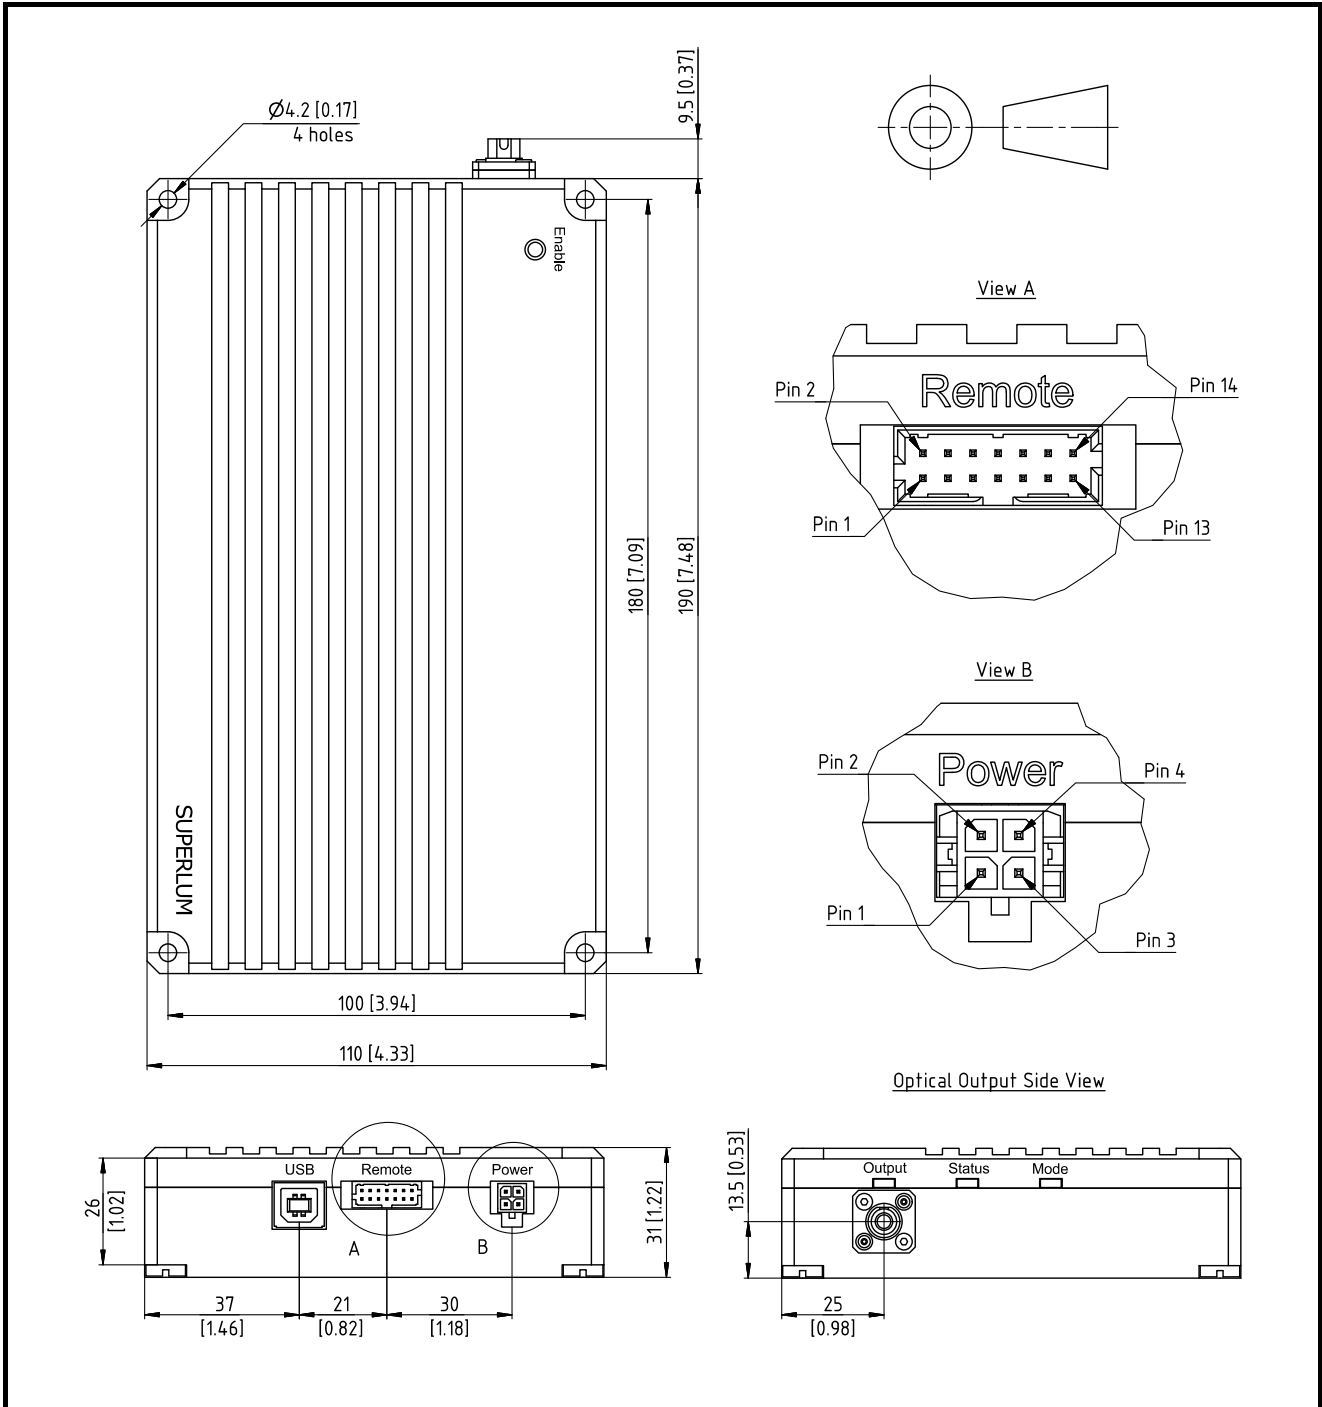

Figure 1. Drawings of Light Source. Dimensions are in millimeters [inches]
Temperature control is an important factor when considering where and how you will integrate this light source to your application. Ideally in order to ensure effective heat dissipation the Light Source should be mounted to an appropriate heatsink in any spatial orientation with 25mm of free space around the sides and cover to allow air circulation. The Lightsource should be anchored to a flat plate heatsink large enough to accommodate the entire footprint of the lightsource base, (see section 1.4 above; Figure 1. Drawing of Light Source) using the Four (4) anchoring holes. Mounting and using without a heatsink is possible, but this approach will reduce the operating temperature range. Forced air circulation system around the enclosure is in this case strongly recommended.
**4.1.5** If no abnormality was found on the preceding stages the lightsource is now ready for use also when the Light Source has been run successfully for the first time it can now be controlled via the USB port, or analog signals via the remote port (see Fig. 1, 2, and Sec. 4.4). To prolong the device lifetime, it is recommended to switch off the optical output when the lightsource is not in use.